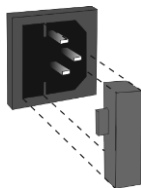
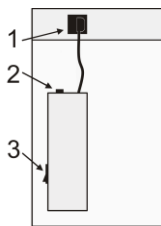
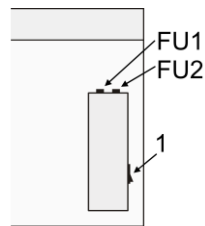

Figure 4.
Figure 5
Figure 6
- 8.3.1. Fuse for the control box. Disconnect the unit from electric circuit. Remove power cable from its socket on the rear side of the unit. Open the fuse holder by pulling out the holder (fig. 4, compact models) or by screwing off the holder lid marked FU2 (fig. 6, model **UVT-S-AR**). Check the fuse and replace if necessary, **M** 3.15 A (type **M** - time lag: **Medium**).
- 8.3.2. Fuse for the mains outlets (for models with built-in mains outlets). Disconnect the unit from electric circuit. Open the fuse holder by screwing off the holder lid (fig. 5/2 or fig 6, FU1). Check the fuse and replace if necessary, **M** 5.0 A (type **M** - time lag: **Medium**).